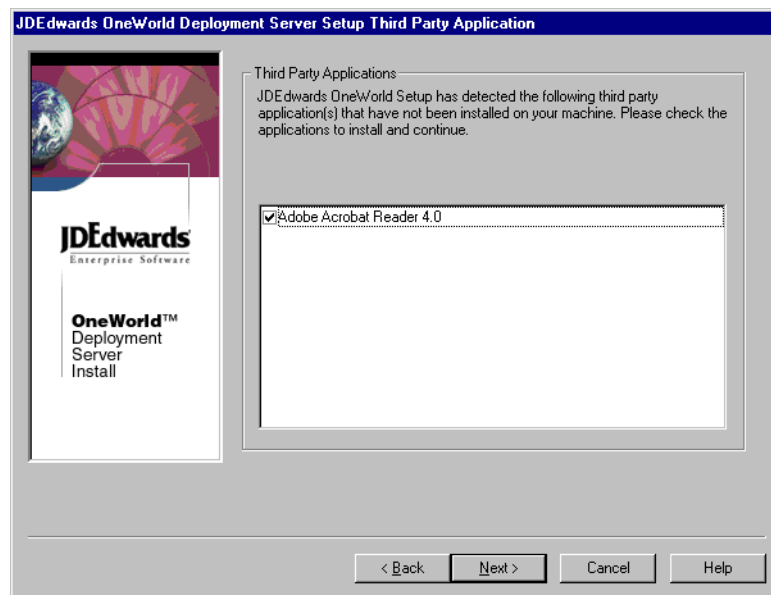

Figure 51. OneWorld Deployment Server Adobe Acrobat Reader Installation
6. You see a display similar to the example in Figure 51, if Adobe Acrobat Reader version 4.0 or Microsoft Internet Explorer version 4.01 are not installed. Select each application listed, and click **Next**. Click **Next** on the Acrobat Reader 4.0 Setup Welcome display. Click **Accept** on the Software License Agreement display. If necessary, browse to find a suitable directory on the Choose Destination Location. Click **Next**. Click **OK** on the Thank you for choosing Acrobat Reader display.